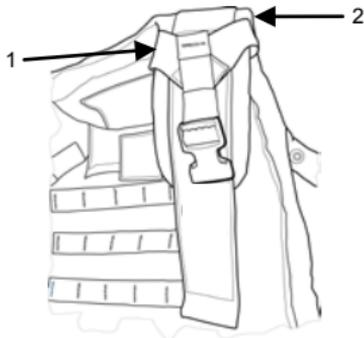

Figure 12. Attachment of TAP to SPCS, using SPCS Adapter Web.
3. Install the SPCS adapter web (Figure 12, Item 1) to the front carrier shoulder (Figure 12, Item 2), by slipping over both shoulders.